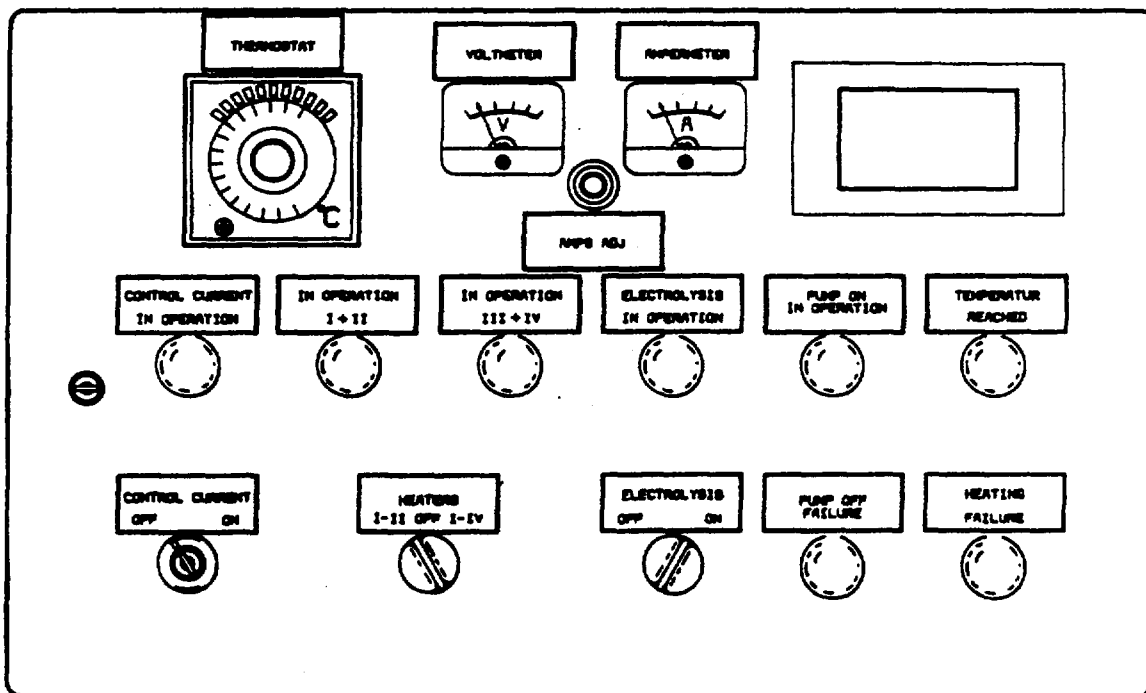

Figure 2. Cleaning unit controls.
- g. Set the heater control switch to position I & II (fig. 2).
l. Set control current switch to ON (figure 2) and with AMPS ADJ set rectifier current to 640 MA.
g. Reconnect all connections (figure 10). Follow instructions as described in step 8 substep o thru p. Stop the pump and switch off rectifier (figure 2).